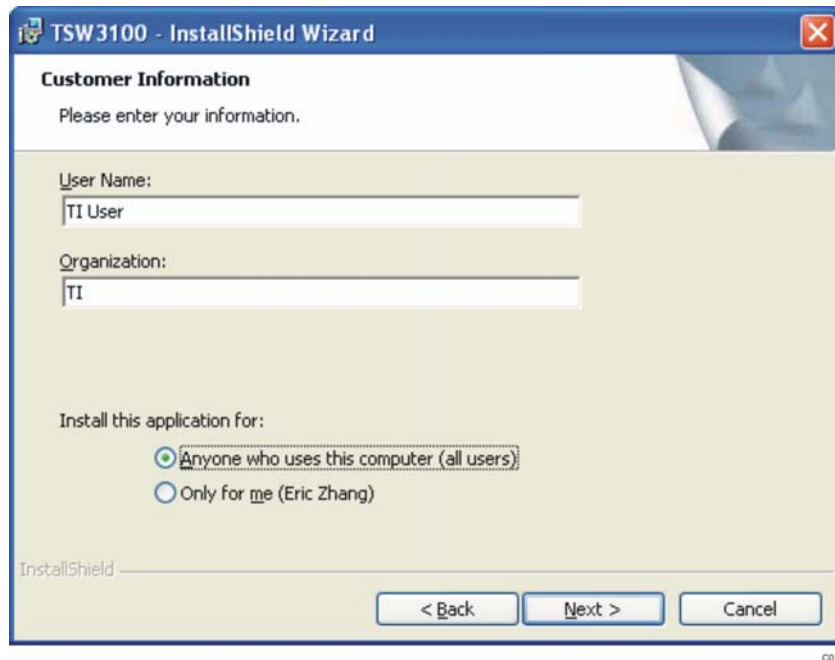

Figure 14. Customer Information
3. On the Customer Information (Figure 14) display, provide *User Name*, *Organization* information, and